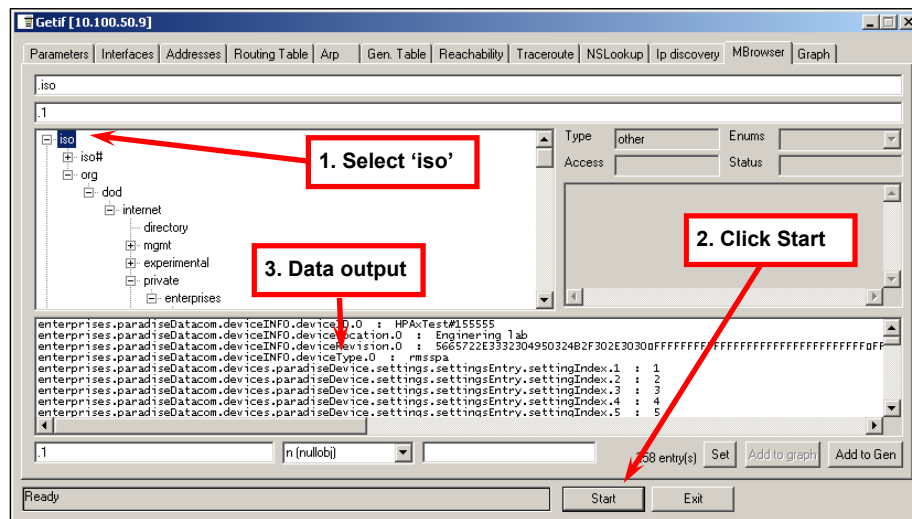

Figure 8-10: Getif MBrowser window, with update data in output data box
5. Click on the 'iso' main entity on the MIB tree (Figure 8-10, Item 1), and click **Start** (Figure 8-10, Item 2).
6. Update data will be displayed in the output data box (Figure 8-10, Item 3).